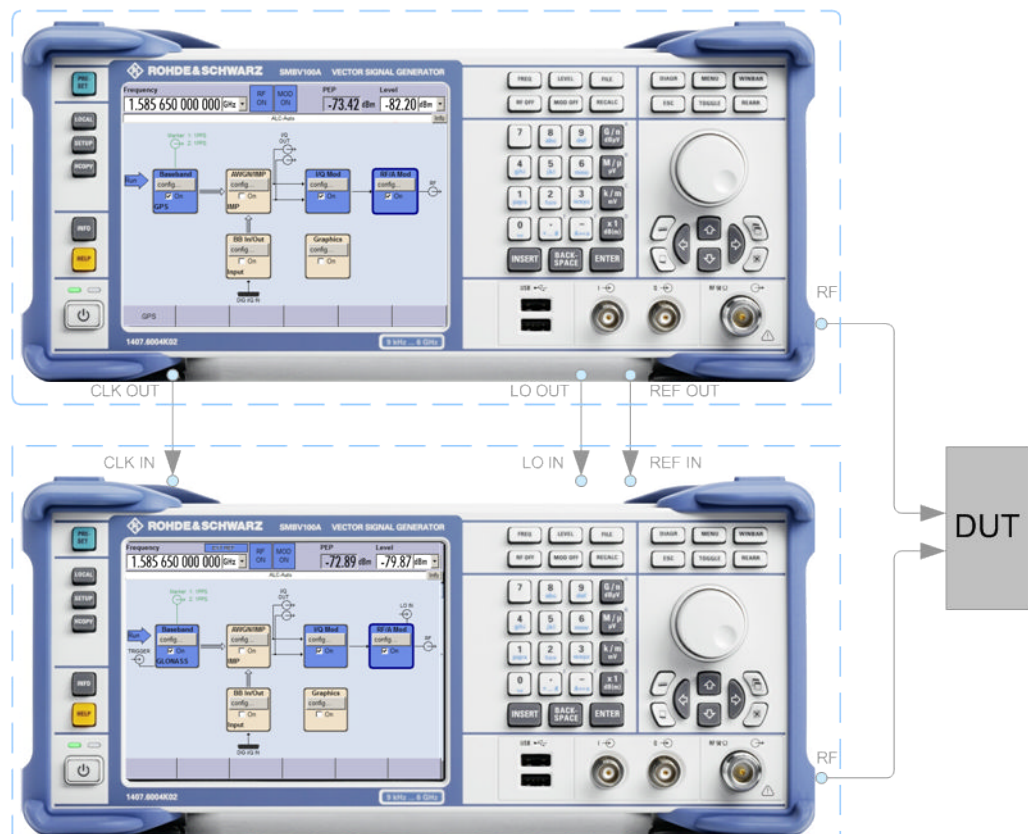

Fig. 2-5: Example: Connecting two R&S SMBV to generate GNSS signal using common RF frequency
The figure 2-5 provides an example of test setup. The two instruments are connected to work in master-slave mode and the local oscillators (LO) are coupled. The first instrument provides the second one with its system clock, trigger, reference and LO signals.